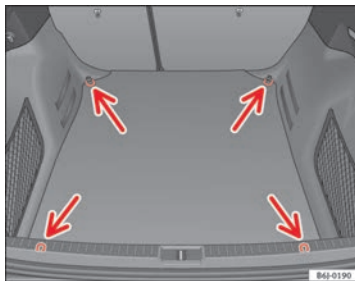

Fig. 94 Location of fastening rings in luggage compartment
- Use the fastening rings to secure the load ⇒ Fig. 94 -arrows-